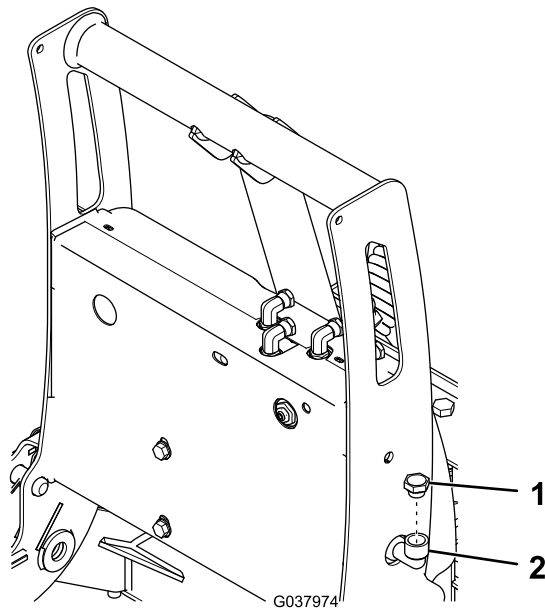

Figure 8
3. Remove the fill cap from the hydraulic reservoir elbow (Figure 8).